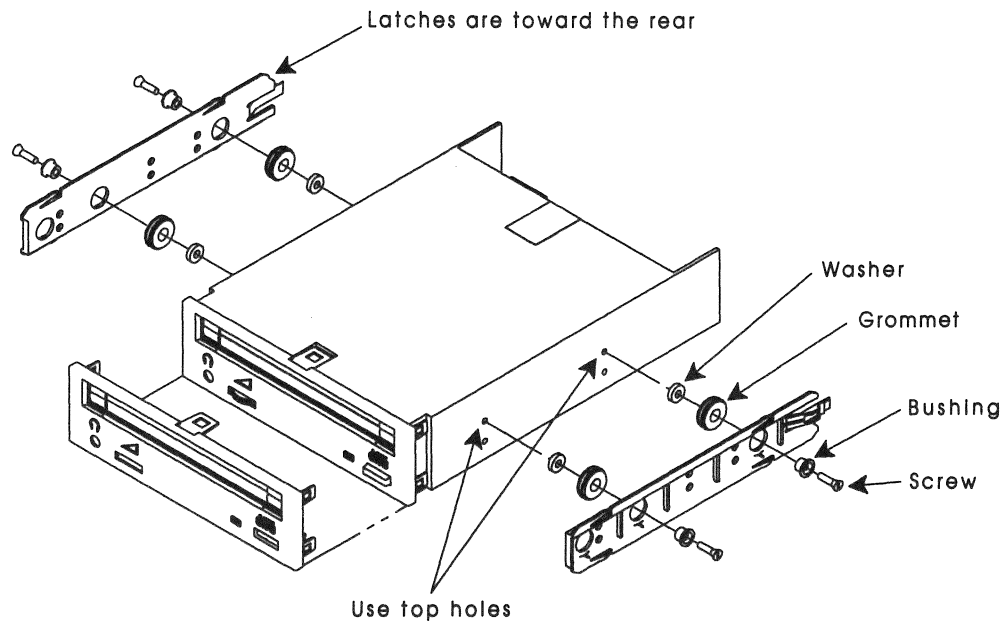

Figure 3-3. CD-ROM drive installation
- **To install a 5¼ inch drive into a 5¼ inch bay**, use the mounting kit for a 5¼ inch bay. Refer to Figure 3-3 on page 3-15. Attach the slide rails to the drive with the grommets, bushings, spacers, and flathead screws provided in the mounting kit. (Thus, all 5¼ inch drives are shock mounted.)